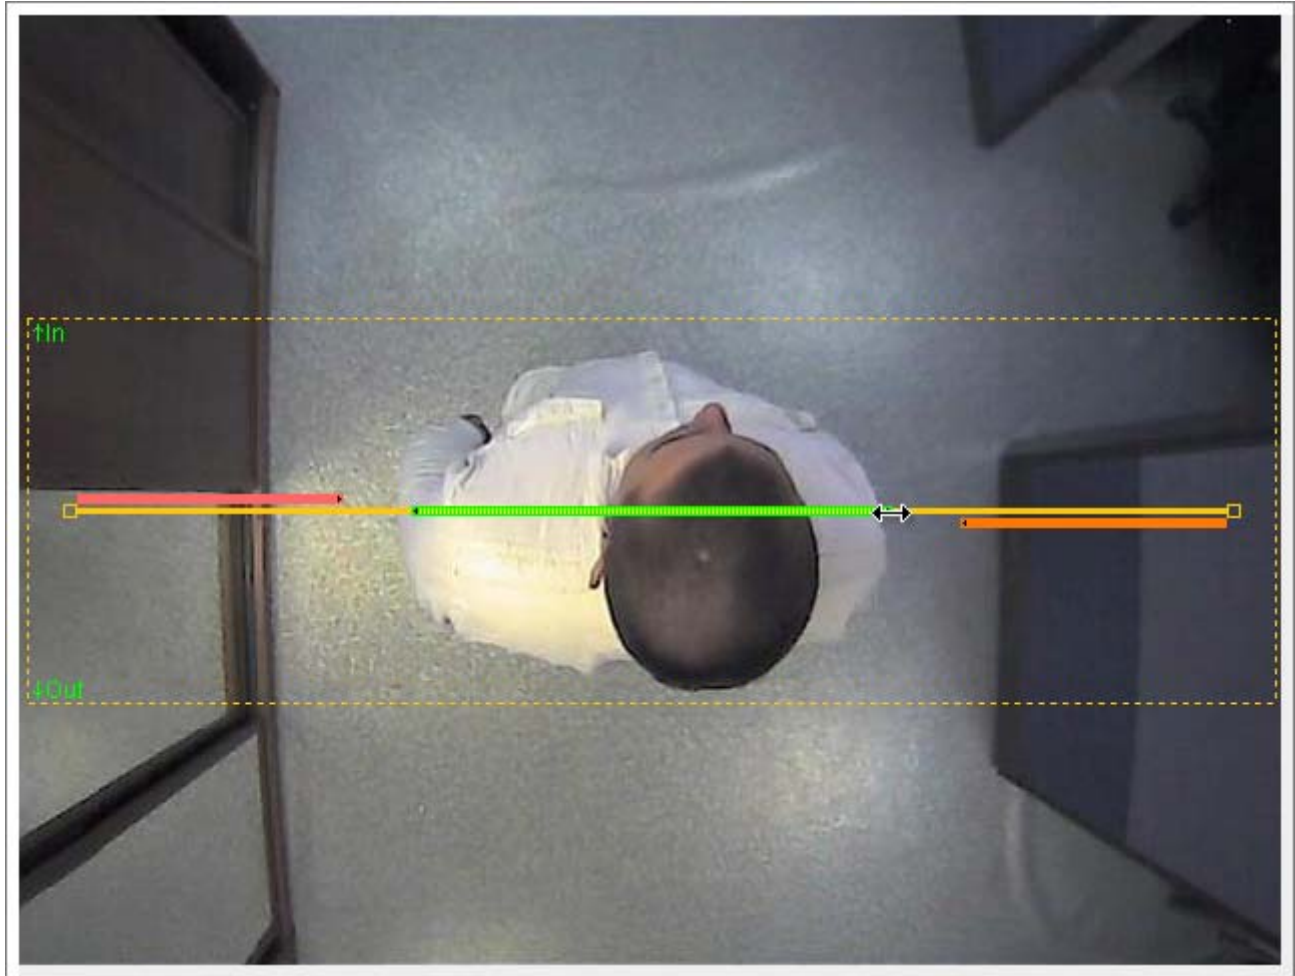

Figure 46: using gauges for people counting line center calibration.
3. Ask your assistant to stand in the center of the People counting line (Figure 46).